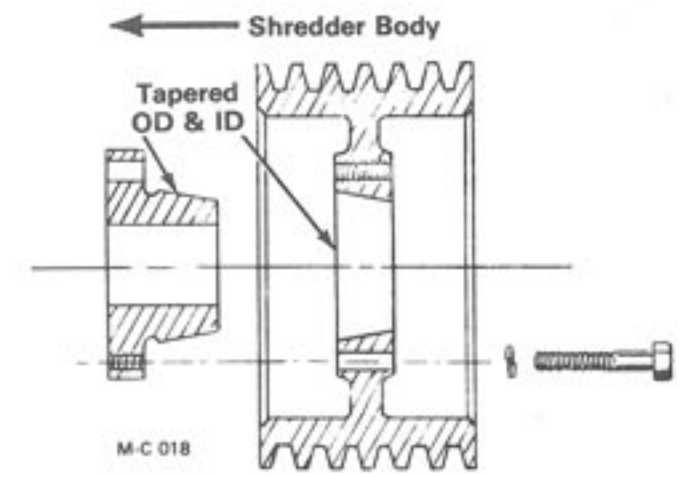

Figure 38
- Place the bushing into the pulley from the back so that the bushing flange is to the inside, see Figure 38. The bushing and the bore of the pulley are tapered. Be sure to install the bushing into the large ID of the pulley tapered bore. If the bushing is installed into the small ID of the pulley, the pulley hub will crack when the mounting capscrews are tightened.